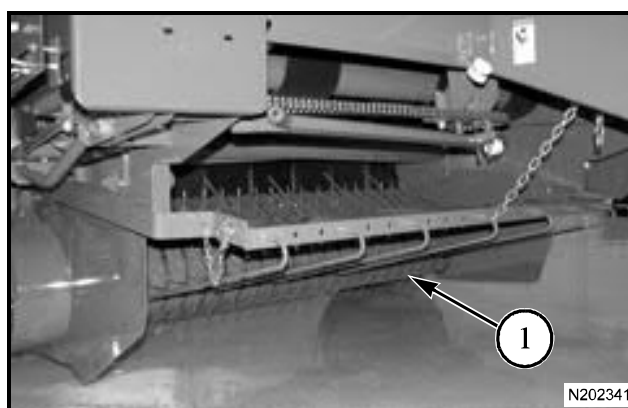

FIG. 6
FIG. 6: The pickup assembly (1) picks up and feeds the hay into the bale chamber. The major components of the pickup assembly are the rotor shaft, tine bars, cam track, windguard, and the pickup height control crank.